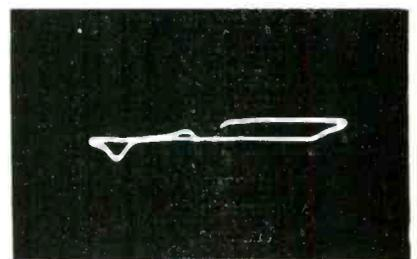

Fig. 7—Cross-over of zero reference line is shown above.
A. Cross-over of the zero-volt reference line, as shown in Fig. 7, is caused by displacement of the zero-volt reference line, and by partial cancellation of the forward trace voltage in the circuits under test. This situation may be encountered, e.g., when aligning a front end; the local-oscillator voltage which is present—